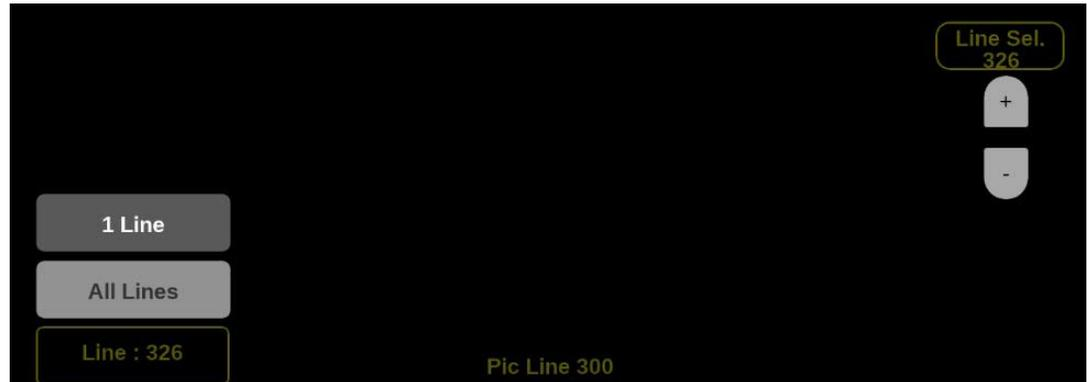

Figure 100: Vector on-screen tools – Line Select
If **1 Line** is selected then the display will only show results for the selected line in the picture. The line can be selected using the on-screen tools. (See Line Select function.) Or the line can be selected directly on the Picture. (See Figure 100.)
1. Select the **Lines** button at the bottom of the application. (See Figure 100.)